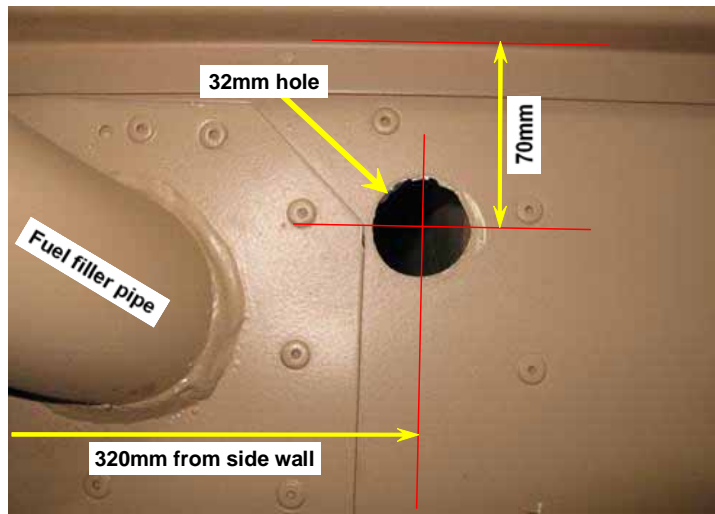

Figure 30 Load Centre Cable Entry Hole Behind the Driver's Seat
- (6) Mark out and use a 32 mm hole saw (Table 3, Item 3) to drill a conduit access hole through the bulkhead behind the Driver's seat as shown in Figure 30. Clean and de-burr the hole.